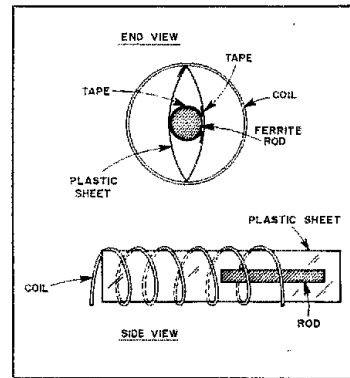

Fig. 5 — A piece of stiff plastic and a ferrite rod can be used to make a homemade variable inductor.
□ Here is an idea that I have employed to make a homemade variable inductor for use in a Transmatch or other piece of equipment. I mount a ferrite rod inside the coil, and slide the rod through the coil to change the inductance. To mount the slider inside the coil, I use a piece of stiff plastic (the type used for covers on greeting-card boxes works fine) that is twice as long as the coil. Next, I cut the plastic to a width of 2.75 times the inside diameter of the coil. Tape the ferrite rod to the sheet as shown in Fig. 5 and fold the sheet in half. The assembly will fit into the coil with just a slight compression. This arrangement will minimize any dielectric loss and provide an easy way to slide the rod back and forth through the coil. You could fasten a wood or plastic handle to the end of the assembly and add a scale for setting the inductance. — *Glenn Morrison, KO9L, Evanston, Illinois*